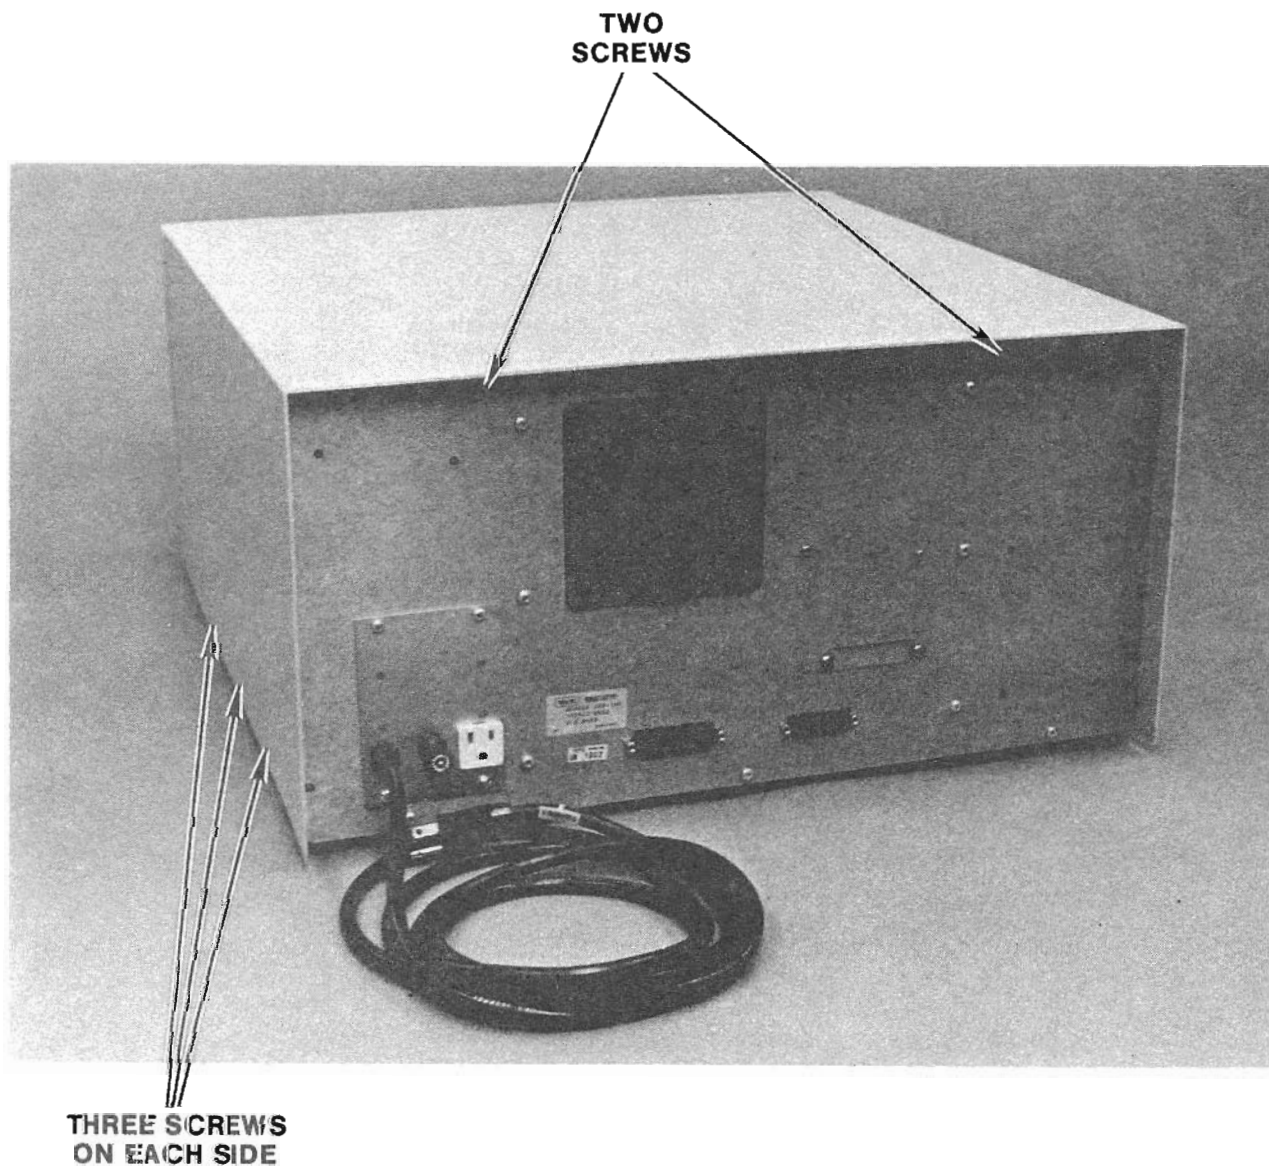

FIGURE 11-3 COVER REMOVAL
1. Using a phillips screwdriver, remove the six screws securing the sides of the cover (three on each side of unit) and the two screws securing the cover to the rear of the chassis (ref: FIGURE 11-3).